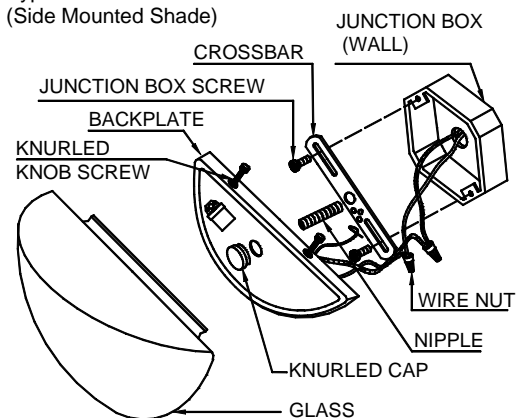

Fig. 2
4. At this point, connect the electrical wires as shown in (Figure 2), making sure all wire nuts are secured. You may have to wrap connections with electrical tape. If your junction box has a ground wire (green or bare copper), connect fixtures ground wire to it. If not, connect the fixture ground wire to the crossbar with the green screw provided. After wires are connected, tuck them carefully inside the junction box as you hold the backplate toward the wall.